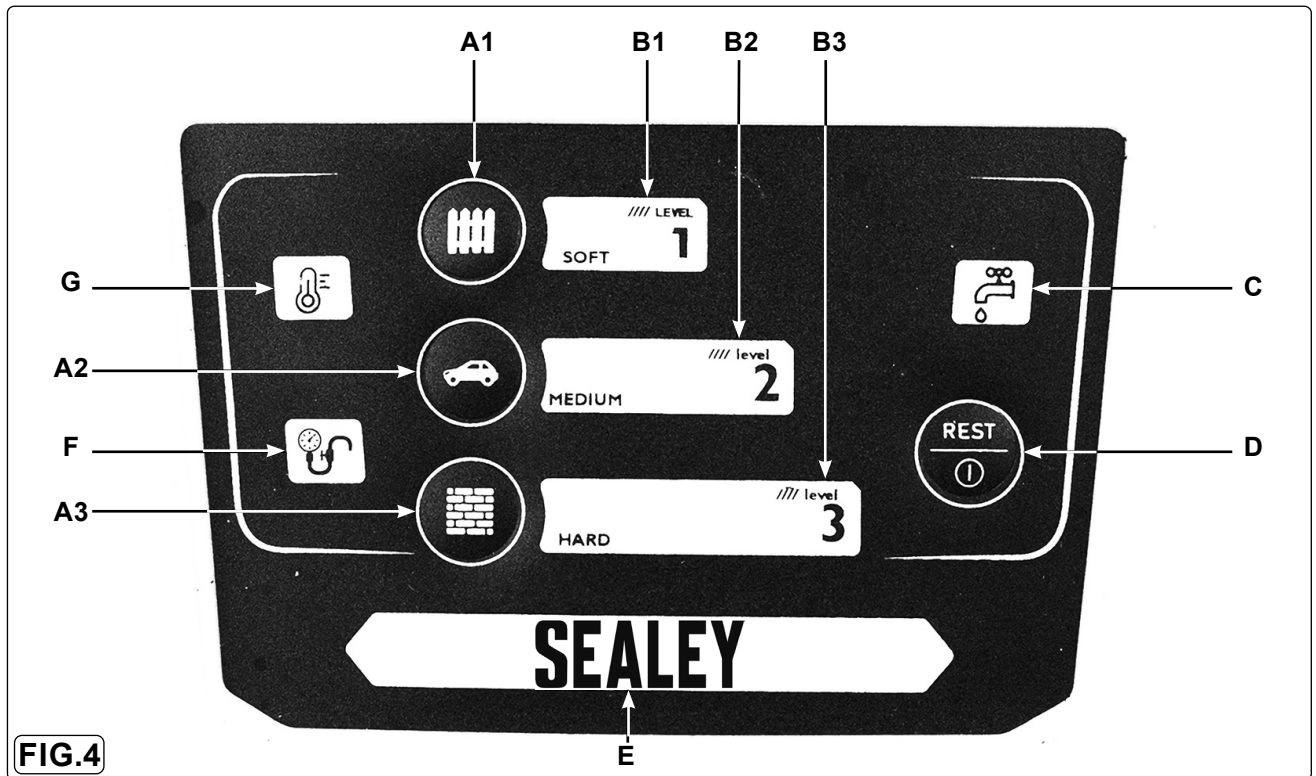

FIG.4
5.6.1. To enter pairing, depress and hold Level 1 and Level 3 buttons (fig.4) for 2 seconds. The indicator light (fig.4.E) will flash. To exit pairing, depress and hold the Level 1 button for 2 seconds.
6.4.1. There are three levels of pressure settings (fig.4). Level 1 is the setting suitable for cleaning fences, cement terraces etc. Level 2 setting is suitable for cleaning vehicles, boats, motorcycles etc. Level 3 setting is suitable for cleaning barbecue grills, garden tools etc.